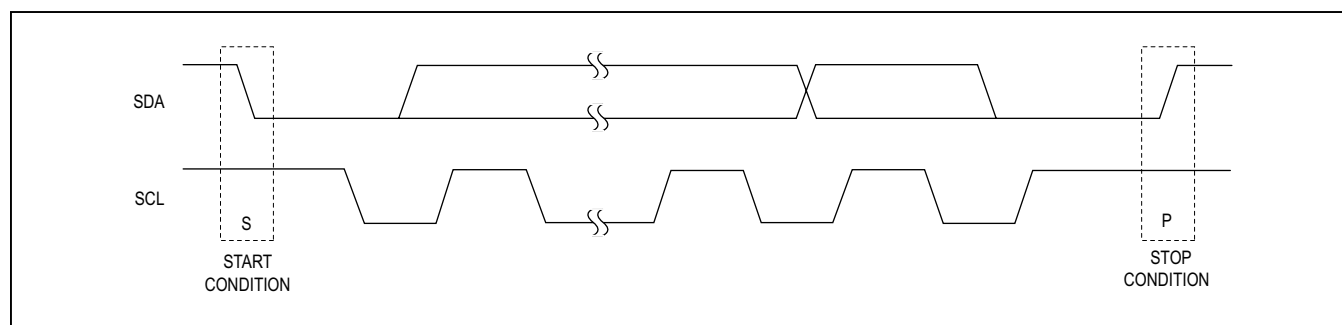

Figure 5. START and STOP Conditions
The IC operates as a slave device that sends and receives data through an I²C-compatible 2-wire interface. The interface uses a serial-data line (SDA) and a serial-clock line (SCL) to achieve bidirectional communication between master(s) and slave(s). A master (typically, a microcontroller) initiates all data transfers to and from the IC and generates the SCL clock that synchronizes the data transfer. The SDA line operates as both an input and an open-drain output. A pullup resistor is required on SDA. The SCL line operates only as an input. A pullup resistor is required on SCL if there are multiple masters on the 2-wire interface, or if the master in a single-master system has an open-drain SCL output. Each transmission consists of a START (S) condition (Figure 5) sent by a master, followed by the MAX14592 7-bit slave address plus R/W bit, a register address byte, one or more data bytes, and finally a STOP (P) condition.
Both SCL and SDA remain high when the interface is not busy. A master signals the beginning of a transmission with a START condition by transitioning SDA from high to low while SCL is high (Figure 5.) When the master has